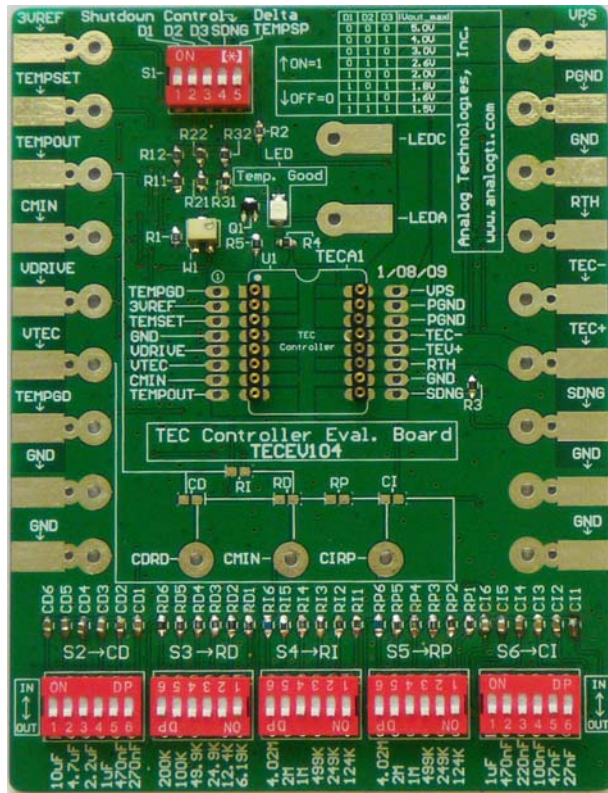
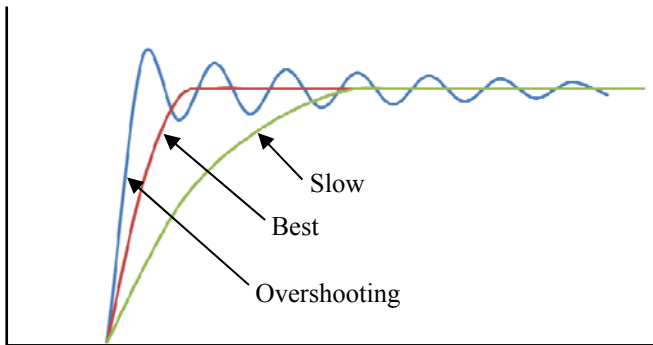
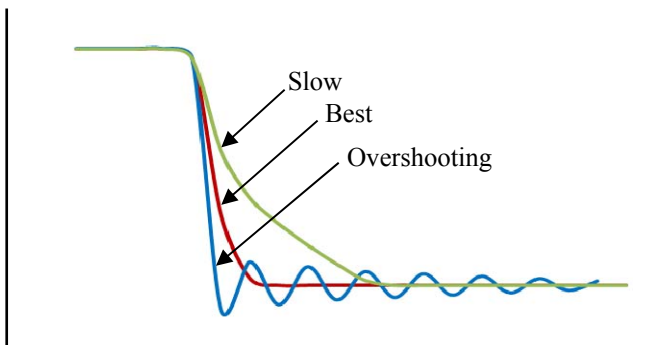

Figure 1. The Physical Photo of TECEV104
Figure 8. Rise Waveforms of VTEC
Figure 9. Fall Waveforms of VTEC
Its photo is shown in Figure 1. The TEC controller module is located in the center of the TECEV104 Evaluation Board. The voltages of all its pins can be measured directly by probing the vias on the left and right side of the module sockets which are connected directly with pins of the electronic module. Some of the pins are also connected to the soldering pads with two vias on the edges of the board. The names of all these nodes are marked on the board.
There are solder pads on the left and right edges of the board. These pads can be used for connecting the external instruments or components with and the connections can be made by soldering wires, clipping by alligator clips or probing by probes. See Figure 1, 2 and 3. There are solder pads also on the top and the lower side center of the board. These pads can be used for connecting the external instruments or components and the connections can be made by probing with probes or soldering wires.
1. Hook up the power supply, TEC and thermistor. There are 2 solder pads in the upper right area on the edge for connecting the DC power supply voltages in the right polarity as indicated onto the board. Usually the power supply is set to 5V. There are also 2 solder pads in the center right area on the edge for connecting the TEC terminals in the right polarity as indicated onto the board. Connect the thermistor terminals to the board, there is no polarity requirement. On the top of the board, there is the switch bank S1, the fifth switch Delta TEMPSP is used to adjust the compensation network of temperature control loop by inputting a square wave disturbing signal in temperature input point, which enables the system to generate corresponding response waveform. At this time, observe the waveform change by oscilloscope, and adjust and optimize the compensation network of the temperature control loop so as to achieve the best waveform at the same time. Response waveform is achieved by measuring VTEC with oscilloscope, as shown in Figure 8 and Figure 9. The compensation network components consist of R_I , R_D , R_P , C_D and C_I , which will be adjusted by S2, S3, S4, S5 and S6. These connections can be done by clipping or soldering on the pads, see Figure 1. Check the evaluation board connections, making sure that they are all correctly connected.
- 6. Set output voltage limit. Turning switches D1, D2, and D3, up and down will set the TECA1-5V-XV-D to different output voltage limit: 1.5V, 1.6V, 1.8V, 2.0V, 2.6V, 3.0V, 4.0V and 5.0V. See Figure 1, 2, 3 and 7.
- a. To know the actual target temperature, use a voltage meter to measure the voltage between the TEMPOUT and the GND pins, the reading result is: target temperature = 15°C + (TEMPOUT voltage (V))*6.67°C for approximation (see the curve in the TEC controller data sheet).
- c. To try other values of capacitors not provided by the evaluation board for the capacitors in the compensation network, turn down the capacitor switches, to the "OUT" position, connect the component to the corresponding soldering pads as marked on the evaluation board, see Figure 1.
- d. To shut down the TEC controller, turn the Shutdown Control switch SDNG to the "Off" position, see Figure 1.